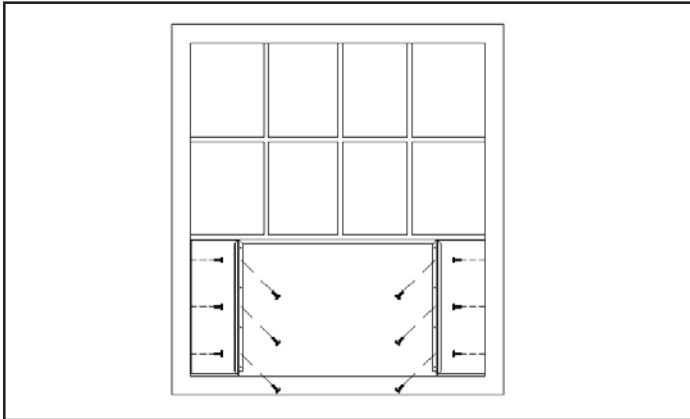

FIGURE 8
- H.) Using 3 #8 x 3/8" screws (provided), attach trim panels to left and right flanges on outer cabinet. The 1/2", 90 degree break on the trim panel must be attached securely to the window frame. (See Figure 8).